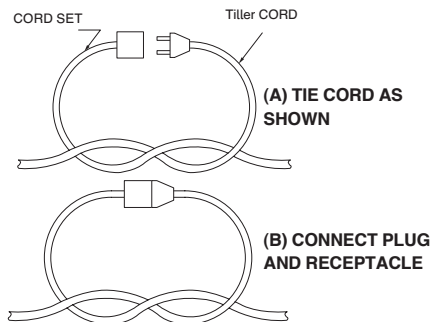

Figure 1
- i) Make a knot as shown in Figure 1; or